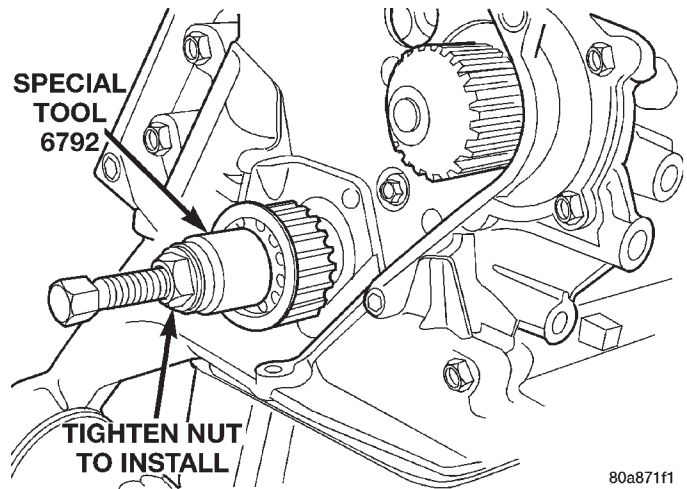
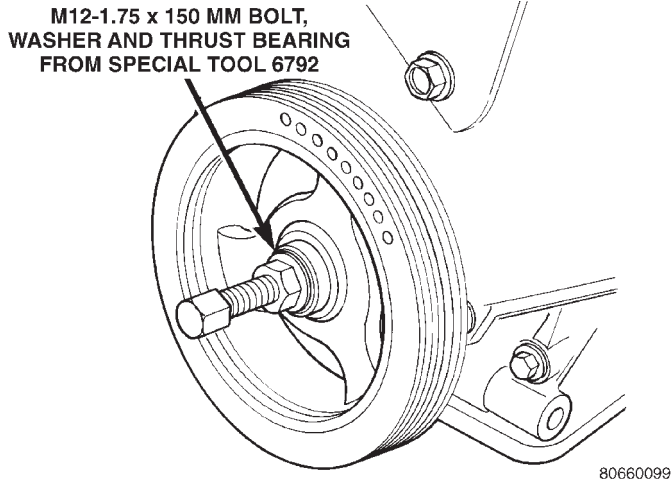

Fig. 68 Crankshaft Sprocket—Installation
Fig. 69 Crankshaft Damper—Installation
(2) Place seal into opening with seal spring towards the inside of engine. Install seal until flush with cover.
(3) Install crankshaft sprocket (Fig. 68). Using Special Tool 6792.
(4) Install timing belt and timing belt covers. Refer to Timing System Section for timing belt covers and belt.
(5) Install crankshaft damper (Fig. 69). Use thrust bearing/washer and 12M 1.75 x 150 mm bolt from Special Tool 6792. Install crankshaft damper bolt and tighten to 142 N·m (105 ft. lbs.)